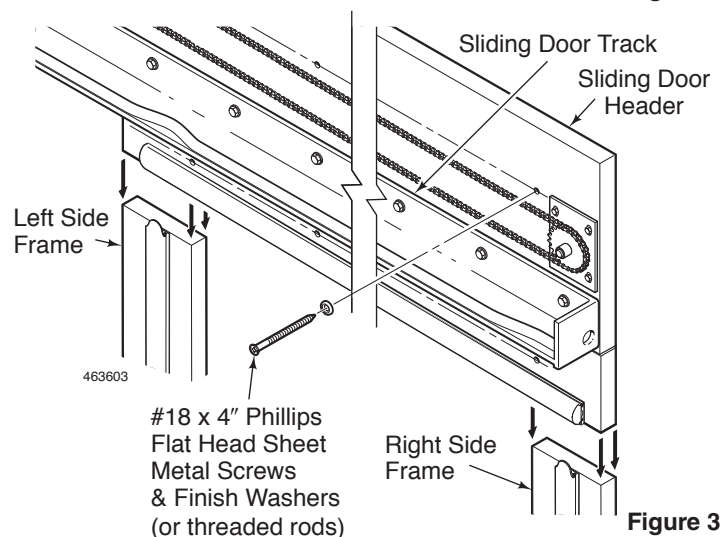

Figure 3
5. Mount the Sliding Door Track and Header assembly above the door frame. See *Figure 3*. For a single door, mount the end of the Track flush with the edge of the side frame. For a bi-parting door, the center stops on the Door Track should be centered above the door opening. In all cases, anchor the Door Header with the with the fasteners that are provided..